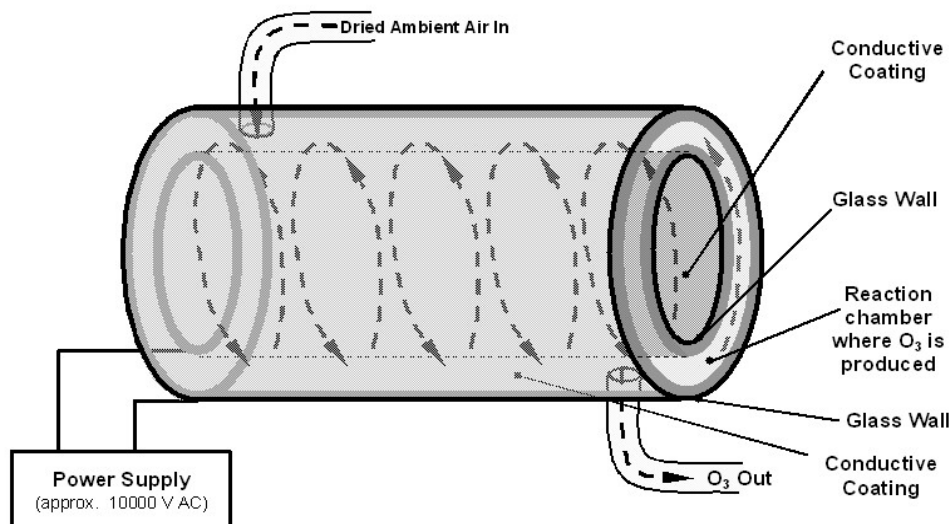

Figure 12-10: Ozone Generator Principle
The T200 uses a dual-dielectric, Corona Discharge (CD) tube for creating its O3, which is capable of producing high concentrations of ozone efficiently and with low excess heat (see Figure 12-10). The primary component of the generator is a glass tube with hollow walls of which the outermost and innermost surfaces are coated with electrically conductive material.